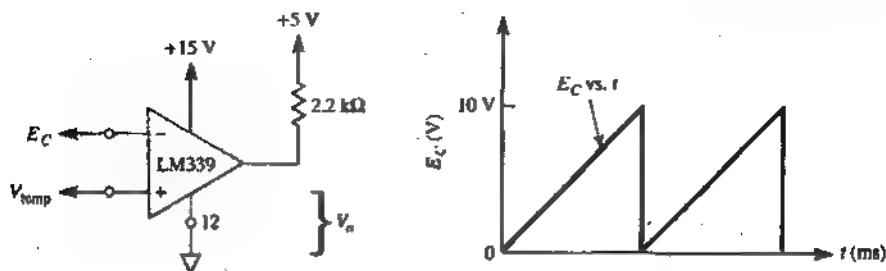

FIGURE P2-14
- 2-14. The frequency of carrier wave E_i is constant at 50 Hz in Fig. P2-14. If $V_{temp} = 5$ V, (a) calculate high time T_H ; (b) plot V_o vs. time.